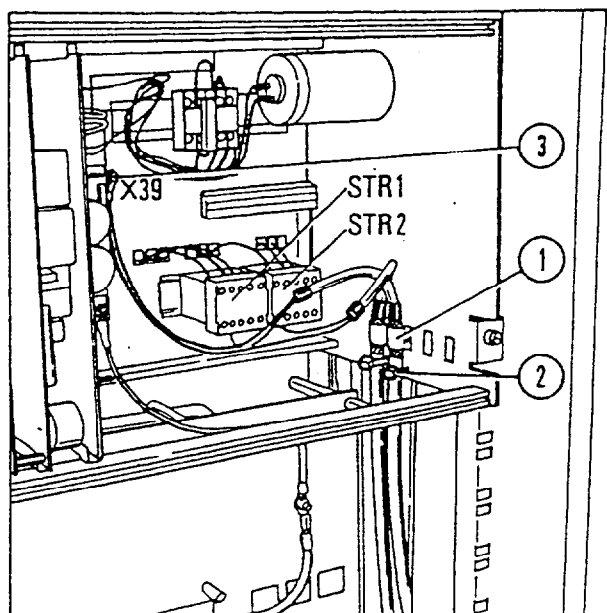

Fig 1
- Lead the rotating anode cables (length required internally approx. 2.5 cm) on the **right-hand** side into the power cabinet, run the cables up to the N90 and connect them as shown in Fig.1.